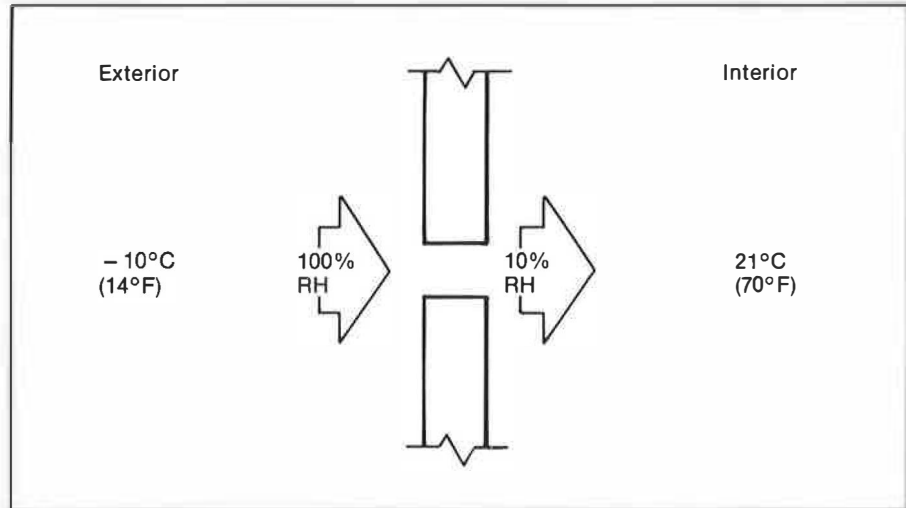

Fig. 5. Drying potential.
- Install a forced fresh air supply, activated by a humidistat. Even saturated air can have considerable drying potential. As exterior air is heated to indoor temperatures, its relative humidity is lowered (fig. 5).